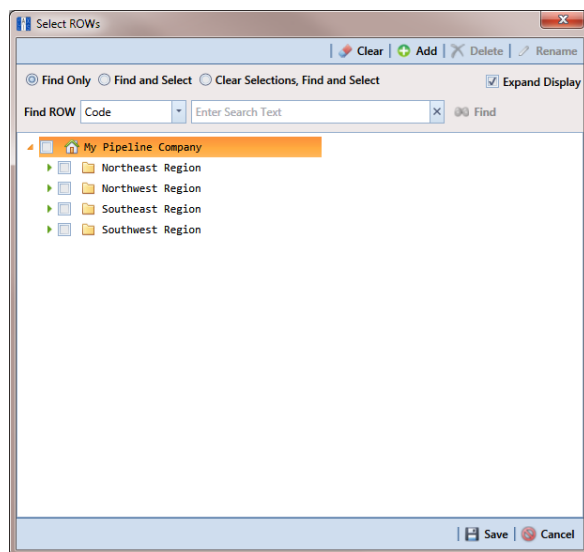

Figure 4-5. Select ROWs
- 1 Click **File > Select ROWs** to open the *Select ROWs* window (Figure 4-5).